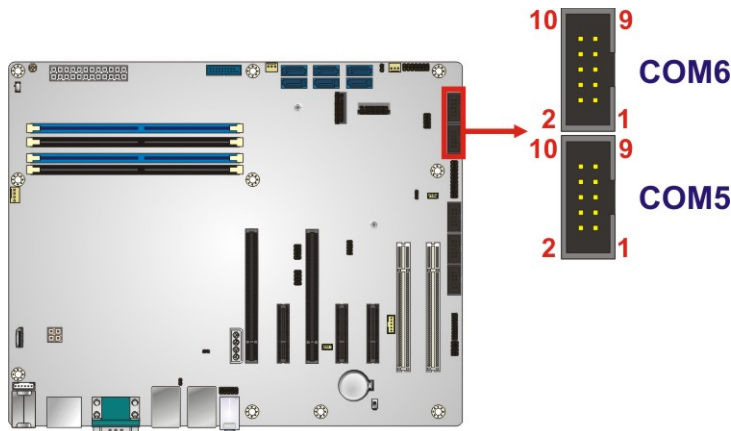

Figure 3-26: RS-232/422/485 Connector Location
- CN Location:** See **Figure 3-26**